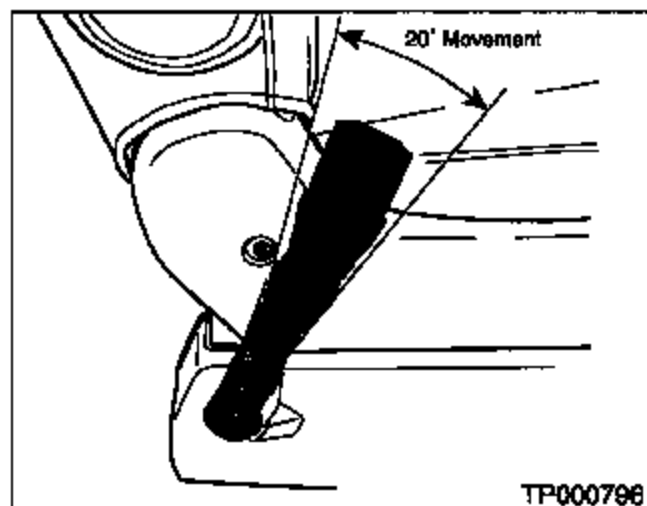

Figure 10
- C. Confirm the seat belt buckle can freely move (back and forth) about 20 degrees (see Figure 10). If the buckle cannot be freely moved (i.e., there is stiff or no movement), loosen and re-tighten the buckle mounting bolt ensuring the buckle trim cover does not get caught between the buckle and the seat.